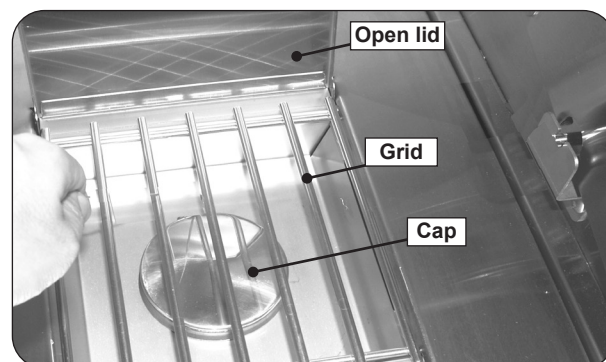

Fig. 22-3 Place burner cap and grid
5. Place the burner cap on top of the burner, as shown in Fig. 22-3.
6. Place the grid so that it rests on the front and back lips of the sideburner opening (Fig. 22-3).